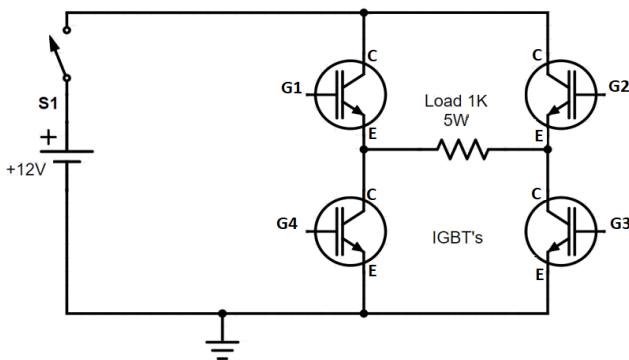

Figure 24
1. Connect the circuit as shown in Figure 24.